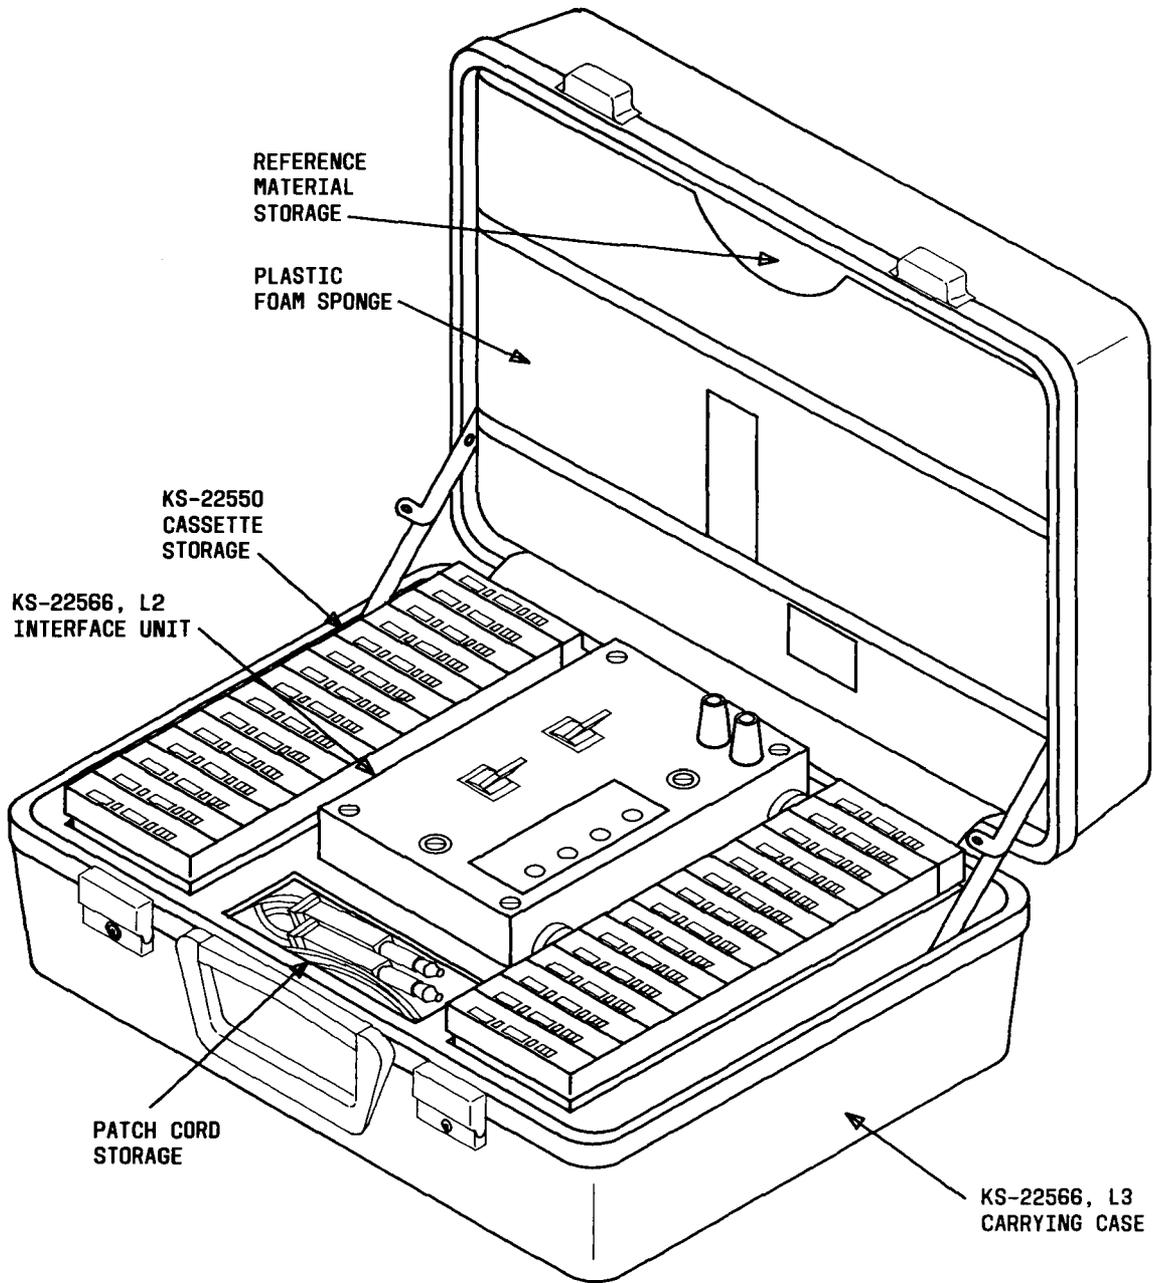
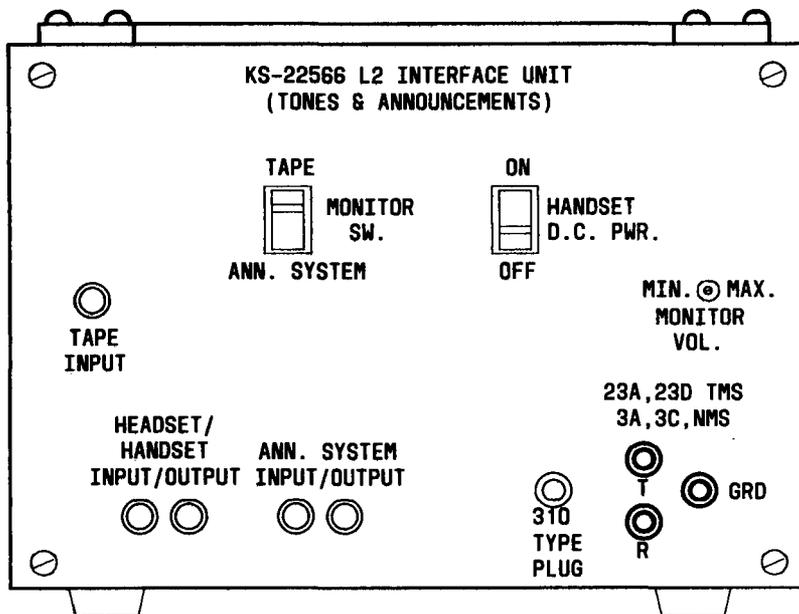

Fig. 2—Recording Interface Kit (3.06)
Fig. 3—Interface Unit (3.06)
3.06 This portable kit (Fig. 2) consists of a KS 22566L2 interface unit (Fig. 3), a set of 4 patch cords, and storage space for up to 30 KS 22550 cassettes, with a compact carrying case for efficient transport and storage. A pocket, located in the kit